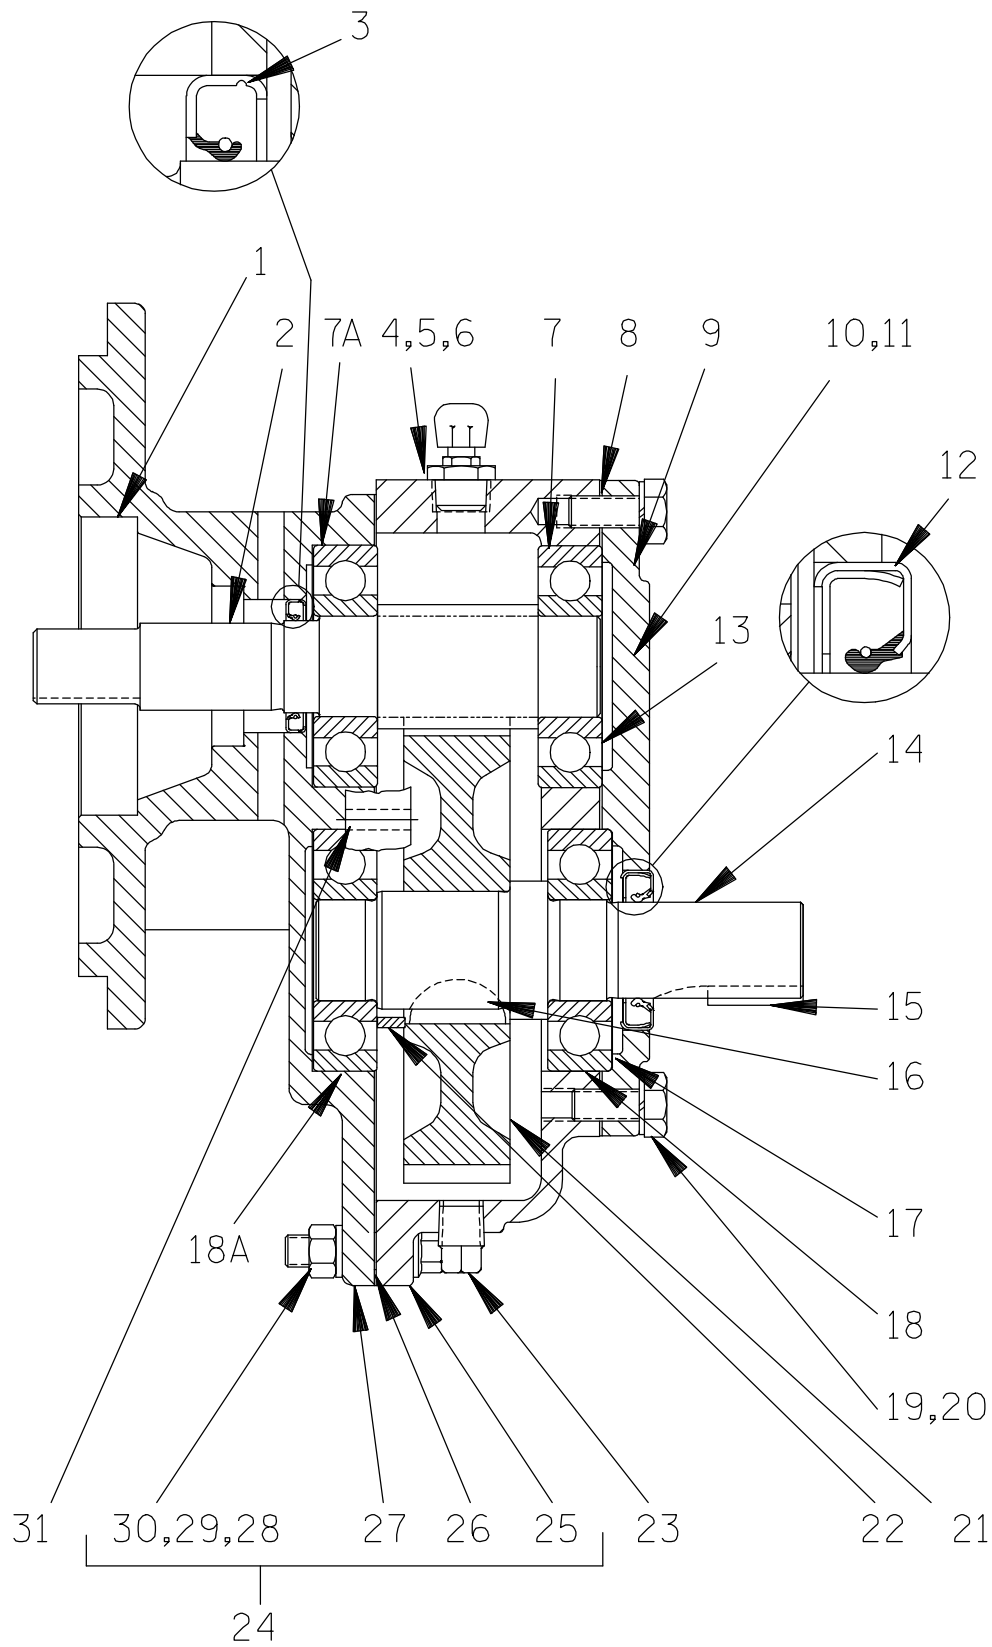

Figure 2. 44161-016 Gearbox Assembly
To service the impeller, wear ring or seal assembly, the pump casing (1) must be separated from the seal plate (27, Figure 2).
To loosen the impeller screw (21), immobilize the drive shaft (14, Figure 2). Remove the impeller screw, lockwasher (22), and impeller washer (19).